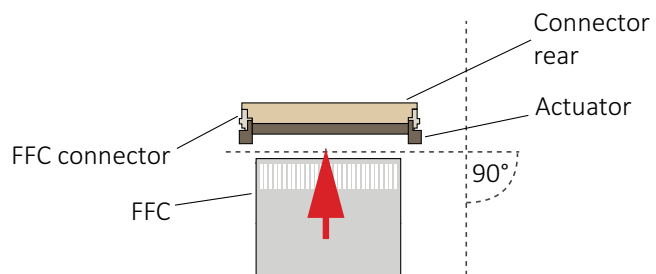

Figure 8: FFC and 36-pin FFC flip connector
2. Take the FFC with conductors pointing upwards and feed it underneath the actuator into the connector at a horizontal angle of 90° to the connector's rear (see Figure 8)...